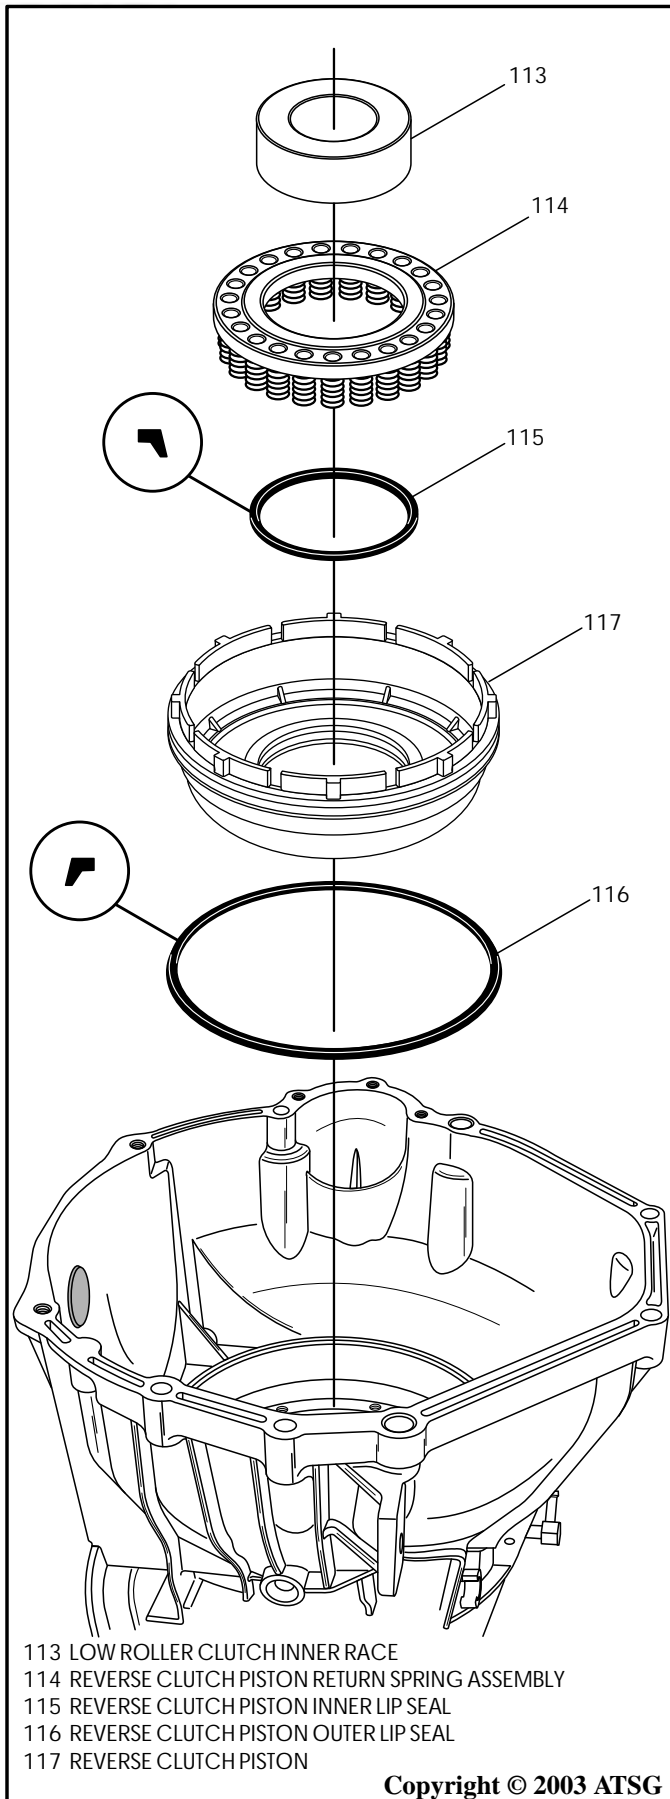

Figure 85
9. Install new inner and outer lip seals in grooves of the reverse piston, with the lips facing the direction shown in Figure 85.
11. Install the reverse piston into the case with a rotating motion, using care not to damage the lip seals (See Figure 85).
12. Install the reverse clutch piston return spring assembly, as shown in Figure 85.